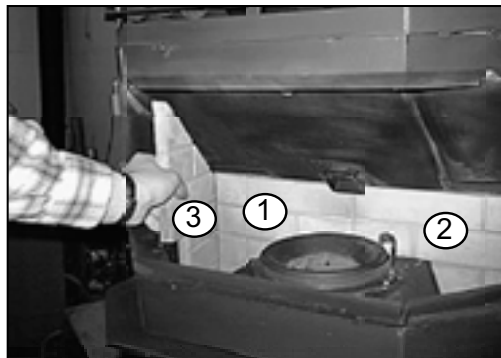

Figure 19.2
4. Place left side brick along left side of firebox, making sure chamfered (beveled) back edge of brick fits snugly next to rear brick. **Figure 19.2.**